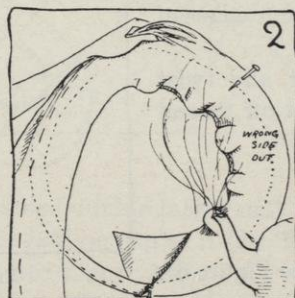

FIG. 2.
- f. Stretch and baste 1 inch bias of lawn to steel wire (see Figure 2 of Job 20, page 83).
- (1) Do not join interlining unless the outer material is transparent, in which case interlining should be stretched, steamed, and seamed with outer material. Lapping interlining is usually sufficient.
- (2) Shirr it, as shown in Sections 3 g through j (pages 138 and 139), if it is necessary to steam it over a steel wire.
- (3) Place on frame, as shown in Section 4, page 139.
- a. Starting at one end of basting, pin the material to the steel wire with the wrong side out (see Figure 2). Keep the basting on the steel wire.
- b. Moisten in steam and stretch well, pinning and stretching again about every 3 inches until the pinned end is reached (see Figures 2 and 3).